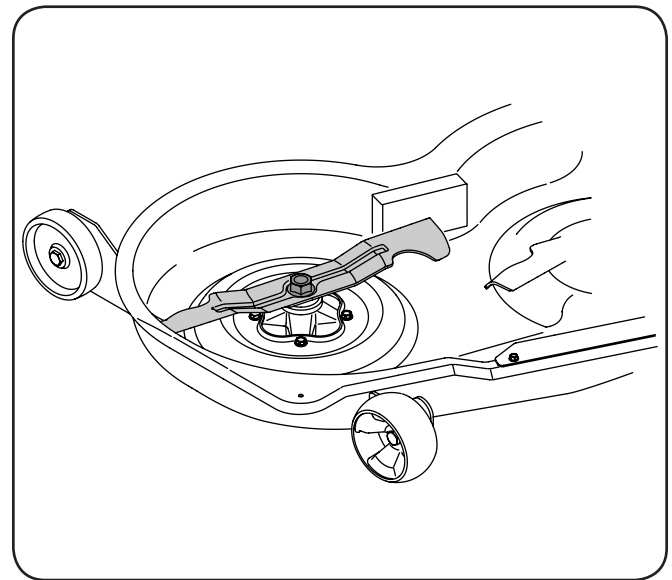

Figure 7-5
2. Place a block of wood between the center deck housing baffle and the cutting blade to act as a stabilizer. See Fig. 7-5.
3. Remove the flange lock nut that secures the blade to the spindle assembly. See Fig. 7-5.